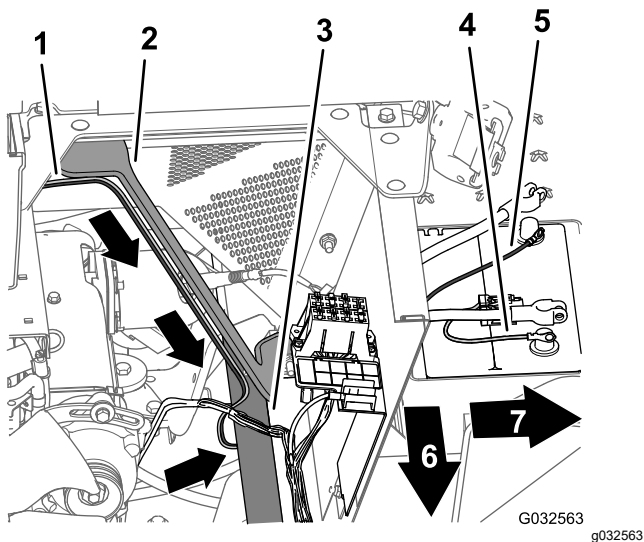

**Figure 110**
2. Route the 165 cm (65 inch) branch of the wire harness across the seat-box angle and down along the left support for the engine shroud (Figure 110).